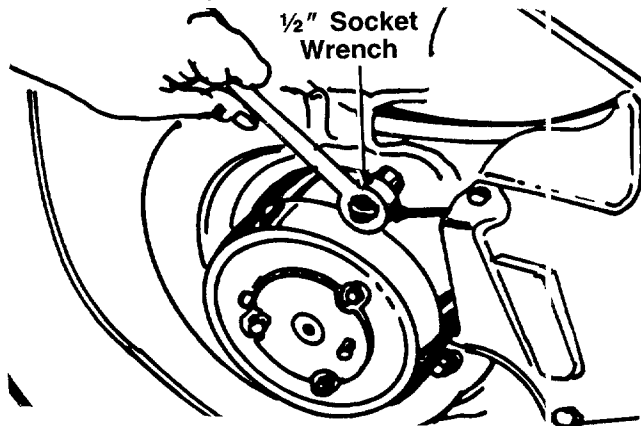

FIGURE 24.
11. Support the engine with one hand. Remove the three self-tapping screws which secure the deck and blade brake/clutch to the engine. A 1/2" socket wrench is required. See figure 24.